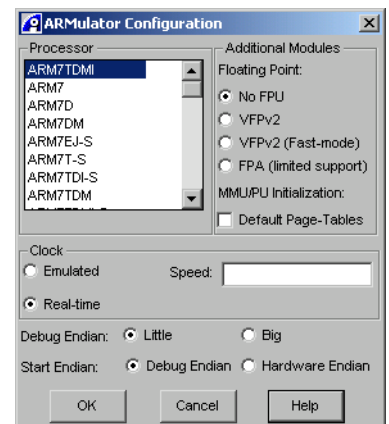

Figure 5-11 ARMulator configuration dialog box
2. Select **Configure Device Info...** from the context menu to display the configuration dialog box is shown in Figure 5-11.
Use the configuration dialog box, shown in Figure 5-11 on page 5-29, to configure your new RVISS connection (see *Configuring RealView ARMulator ISS* on page 5-29 for details).